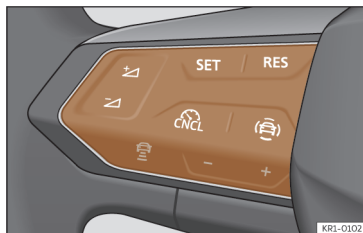

Fig. 118 On the multifunction steering wheel: buttons for operating the ACC.
- Press the  button on the multifunction steering wheel >>> **Fig. 118**.
- To start regulation, press the **SET** button >>> **Fig. 118**.
- Press the  button and then + or – button >>> **Fig. 118**.
- Briefly press  button >>> **Fig. 118** or press the brake pedal.